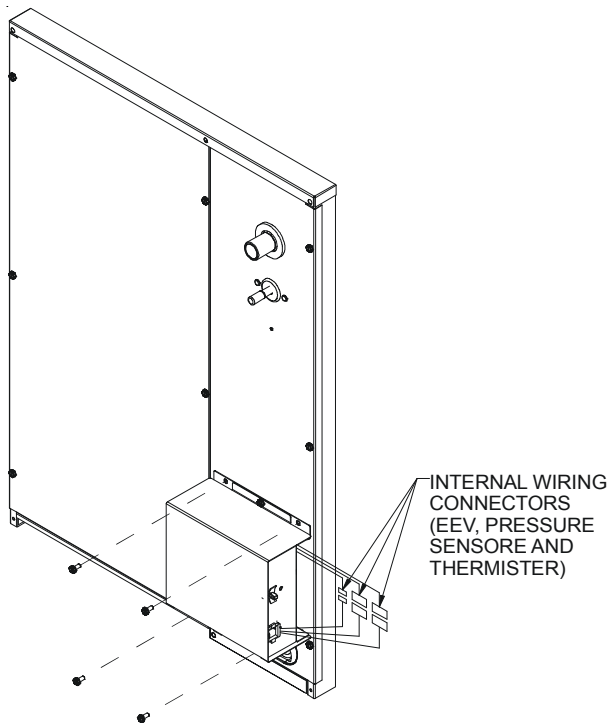

Figure 1 - Front of Coil
- Disconnect the control panel wiring from component wiring using the EEV, Pressure sensor and Thermistor connectors located on the outside of the control panel. See Figure 1.